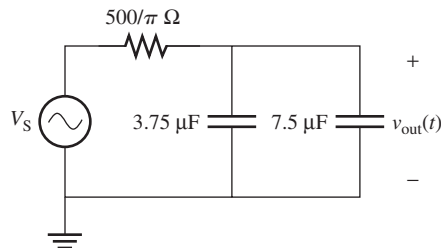

FIGURE P7.14 Circuit for Problem 7.14.
7.14 (A)* Find the transfer function for the circuit in Figure P7.14.